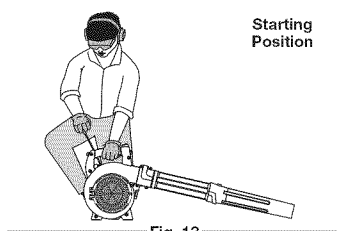

Fig. 13
WARNING: Avoid accidental starting. Make sure to be in the starting position when pulling the starter rope (Fig. 13). To avoid serious injury, the operator and unit must be in a stable position while starting.
4. **Do not squeeze the trigger.** Crouch in the starting position (Fig. 13). Pull the starter rope 5 times in a controlled motion.
4. Crouch in the starting position (Fig. 13). Insert the Speed Start™ accessory into the Speed Start™ port on the side of the unit (Fig. 23). Refer to the *Operation* section of the Speed Start™ accessory operator's manual.